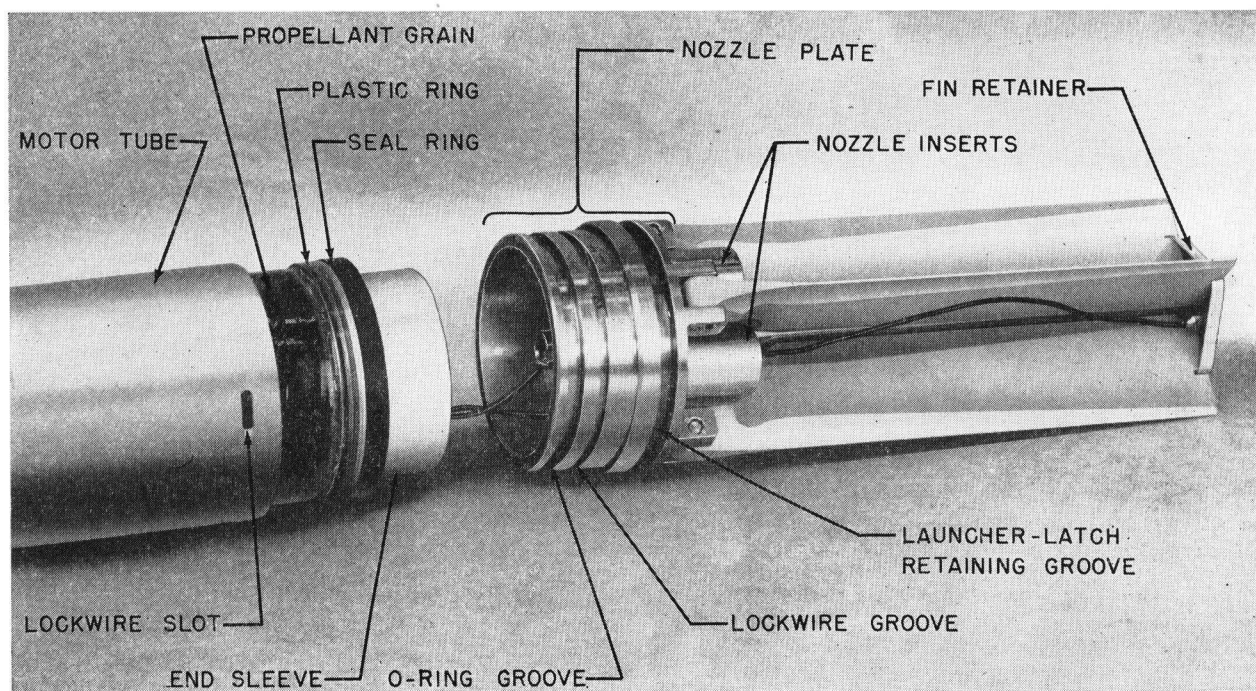

Figure 3—Nozzle-Fin Assembly and After End of Motor. Propellant Grain Partially Pulled Out of Motor Tube.
**End Sleeve.** A cylindrical end sleeve, figure 3, is bonded to the end inhibitor at the after end of the propellant charge. A rubber seal ring fits over the sleeve. The seal ring prevents leakage of gas along the annular space between the exterior surface of the propellant charge and the inner surface of the motor tube, thus preventing
**Nozzle-Fin Assembly.** The nozzle-fin assembly, figures 3 and 4, which attaches to the after end of the motor tube, consists basically of a nozzle plate, four nozzle inserts, a fin-actuating mechanism, four fins, and a fin retainer and contact disc.